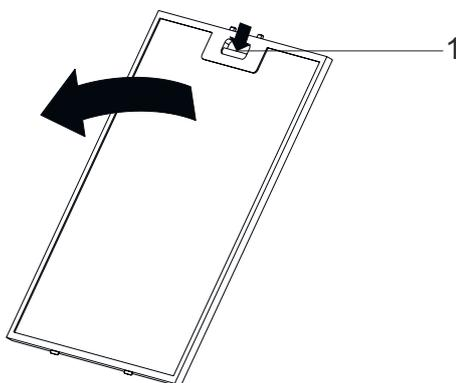

Fig. 6
- Press the aluminium filter tab (1) and pull the aluminium filter to the direction of the arrow (Fig. 6).